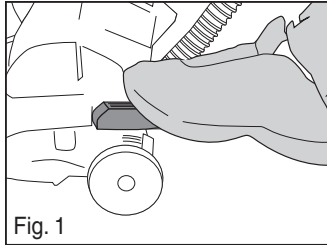

Fig. 1
- 2) Press handle release twice to lower handle flat onto floor (Fig. 1).
- 1) Lower handle to floor (Fig. 1).